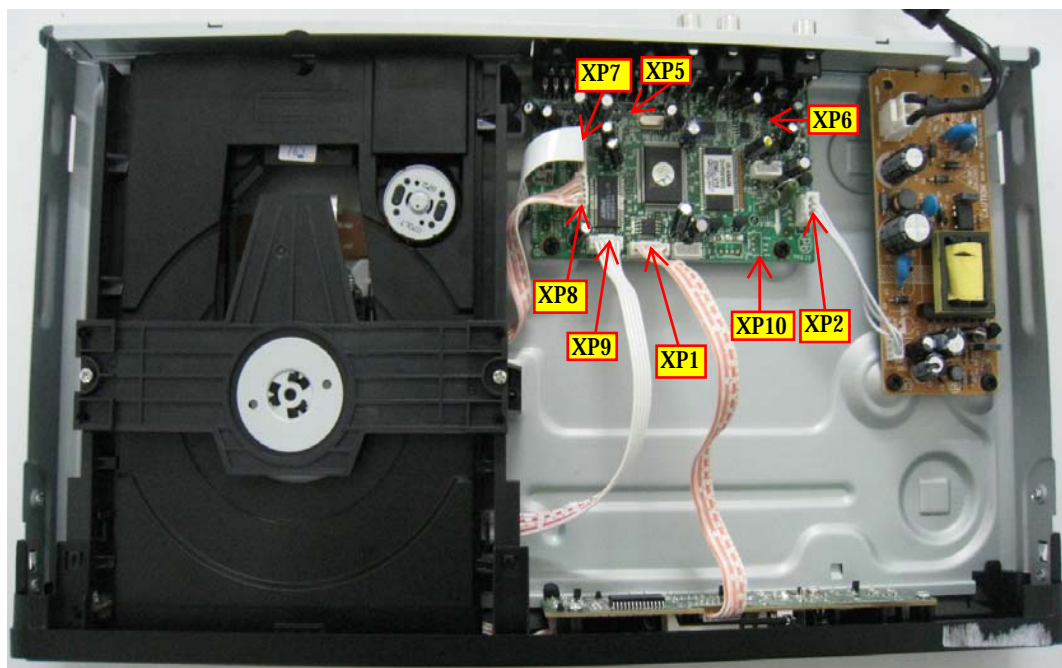
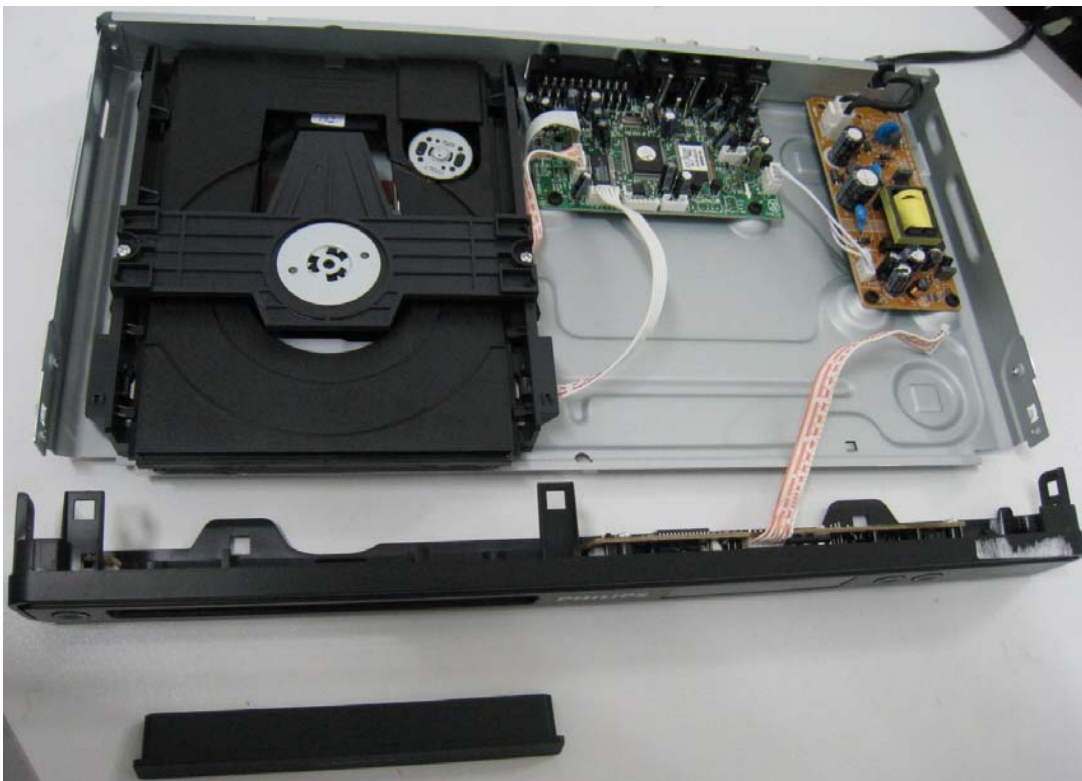

Figure 4
Figure 6
Step4: Dismantling Front Panel, disconnect the connectors (XP1), need release 4 snaps of Front Panel and 2 snaps of bottom cabinet , then gently pull the Panel out from the set. (Figure 4 - Figure 6)